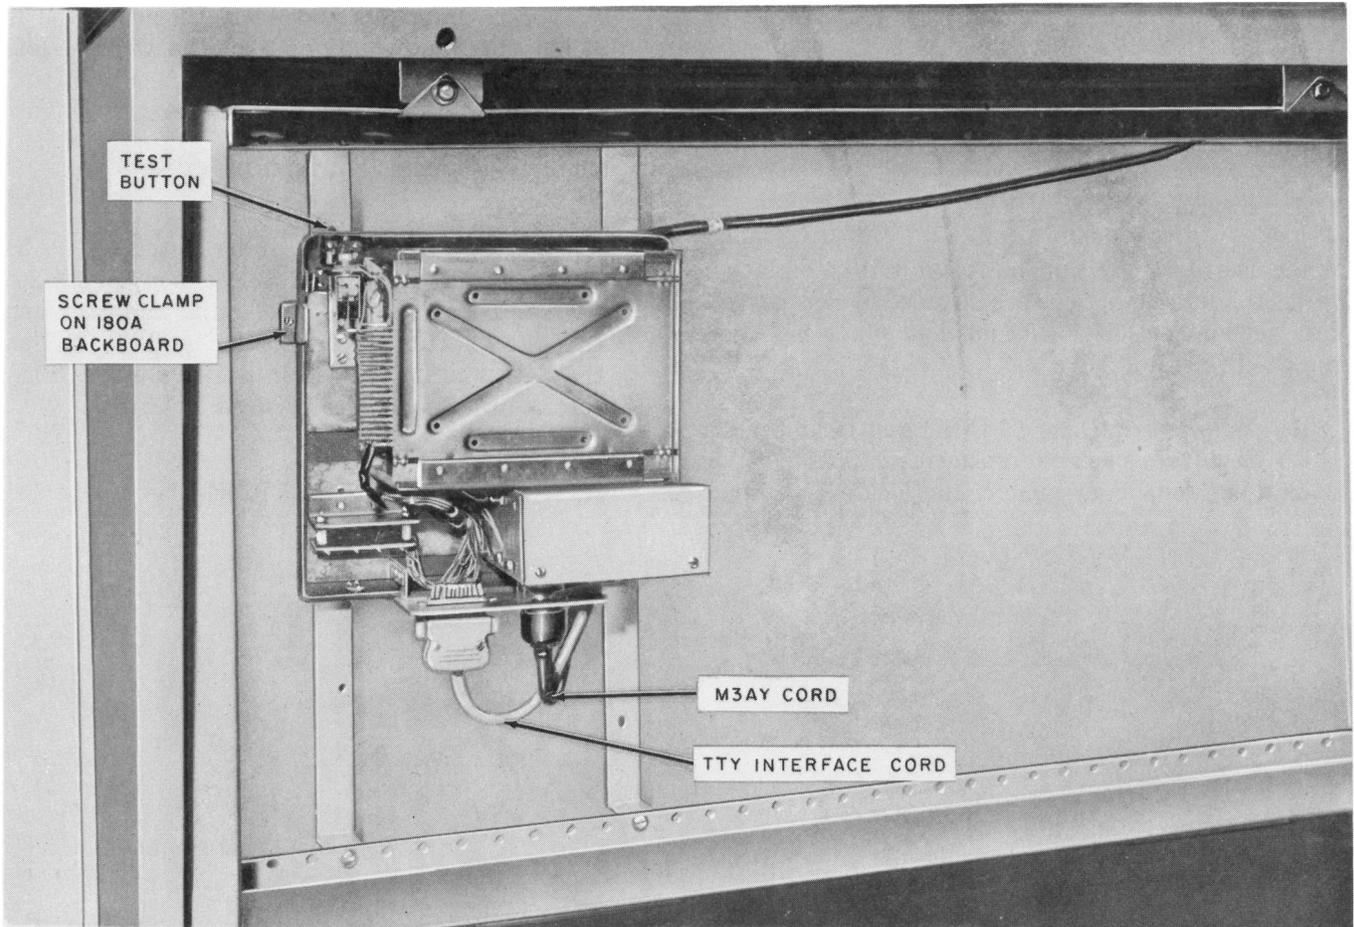

Fig. 2—Mounting of DAS 820D-L1A in the Pedestal of a Model 35 TTY
- (2) Disconnect power cord and interface cord from the DAS (and remove cover of DAS 820D-L1).
- (3) Tag and remove wiring connections from TB1 of DAS 820D.
- (4) Loosen screw clamps holding DAS 820D to 180A backboard, and lift DAS out of the cabinet (see Fig. 2).